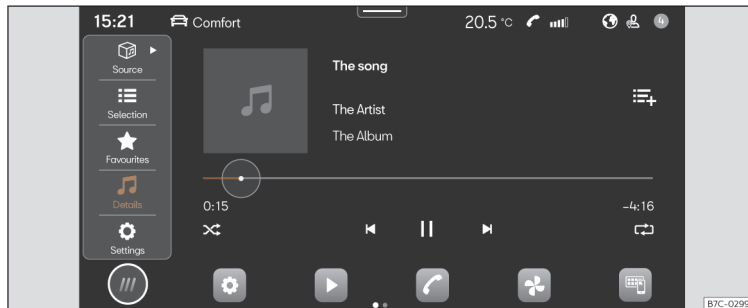

Fig. 153 Schematic diagram: Media view
- Press **HOME** > ► >>> **Fig. 153**.